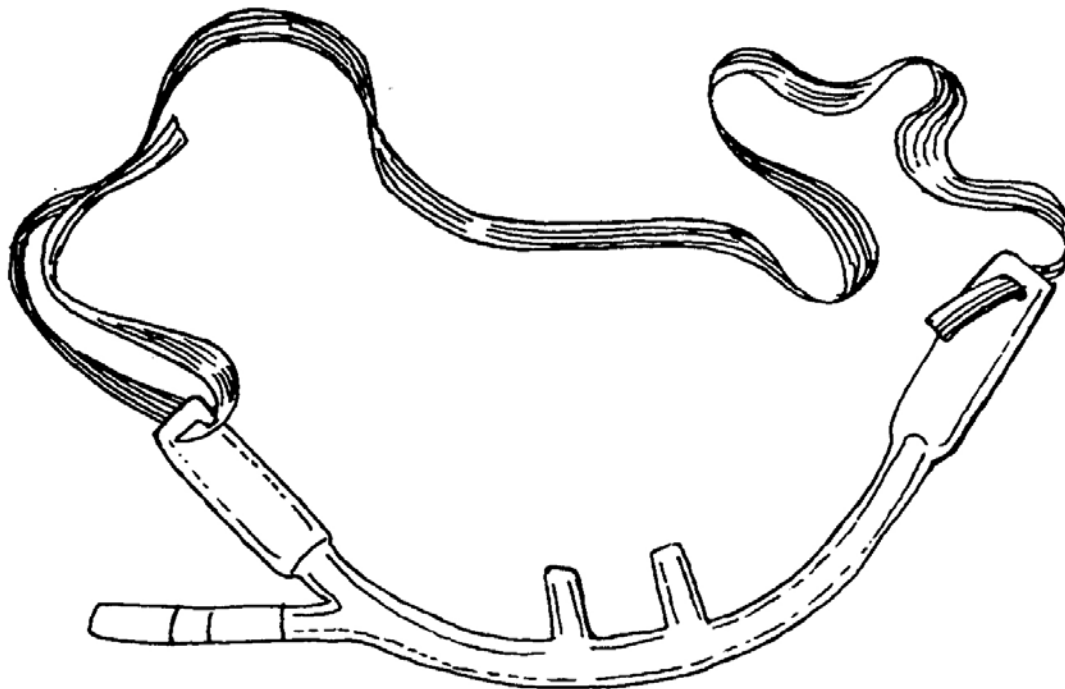

Figure 3-1. Nasal cannula.
a. **Nasal Prongs.** The nasal prongs (nasal cannula) is the device most frequently used to administer a low concentration of oxygen. It is a short, disposable, plastic tube with two plastic prongs that fit into the patient's nostrils. It is held in place with an elastic headband (figure 3-1). The nasal cannula is relatively comfortable and enables the patient to eat, talk, and move without difficulty; however, the prongs can be easily dislodged by restless or disoriented patients. To be effective, the patient's nasal passages must be clear.